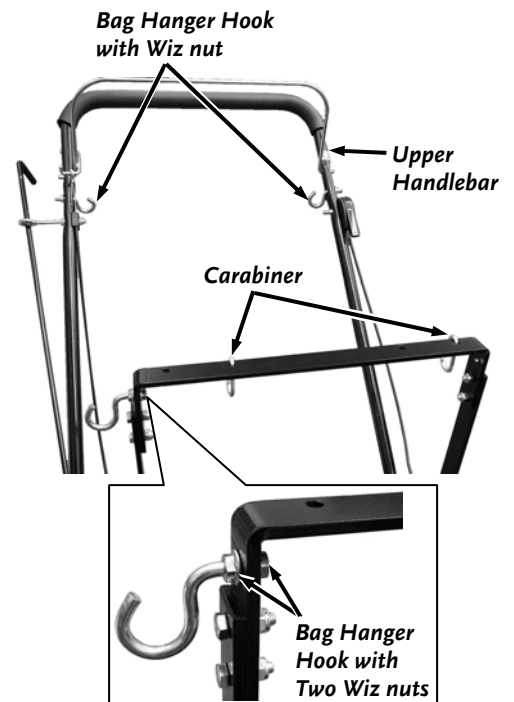

Figure 11
9. Locate the two Carabiners, three Bag Hanger Hooks and four 5/16-18 Wiz Nuts included in the Bolt Bag. Mount the two upper Hooks through the upper holes in the Handlebar Assembly with the Hooks on the inside (**Figure 11**). Secure with a Wiz Nut on the outside of the Upper Handlebar.